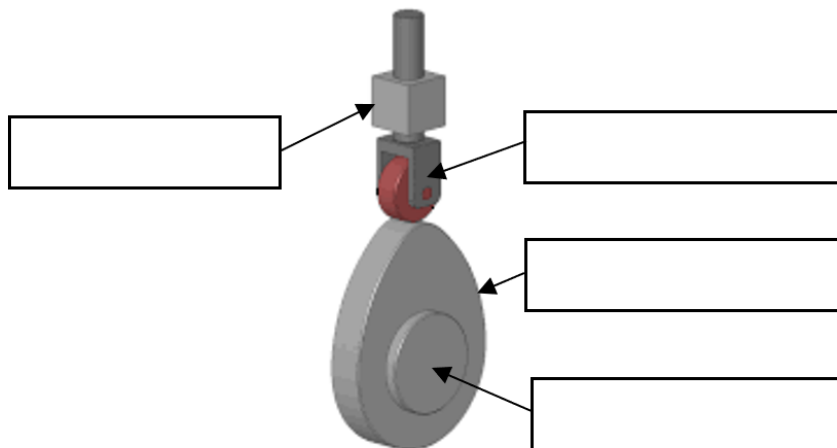

Figure 4: Cam and follower system 1
a. Name the different parts of the cam and follower system given in Figure 4.